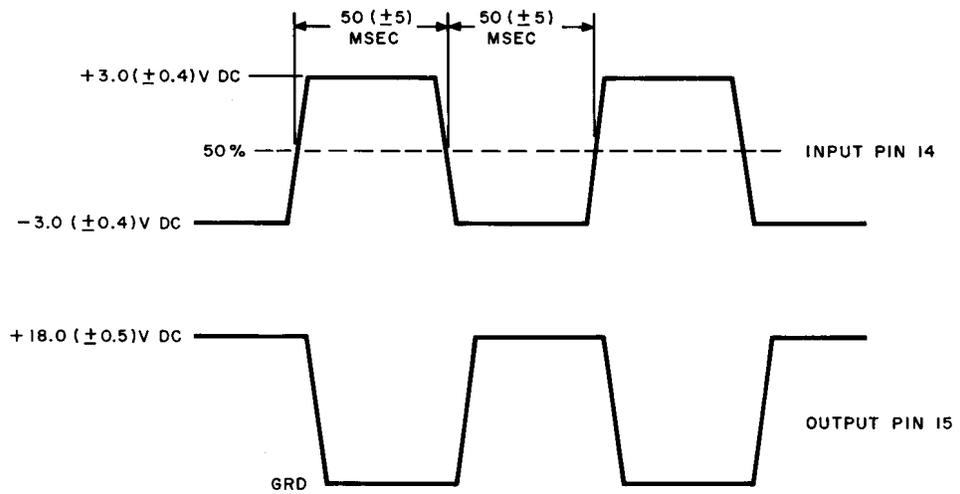

Fig. 55A — Remote Test Circuit Pack, Test
- (5) The input waveform at terminal 14 and the output waveform at terminal 15 shall be as specified in Fig. 55A. No time base measurements need to be made.